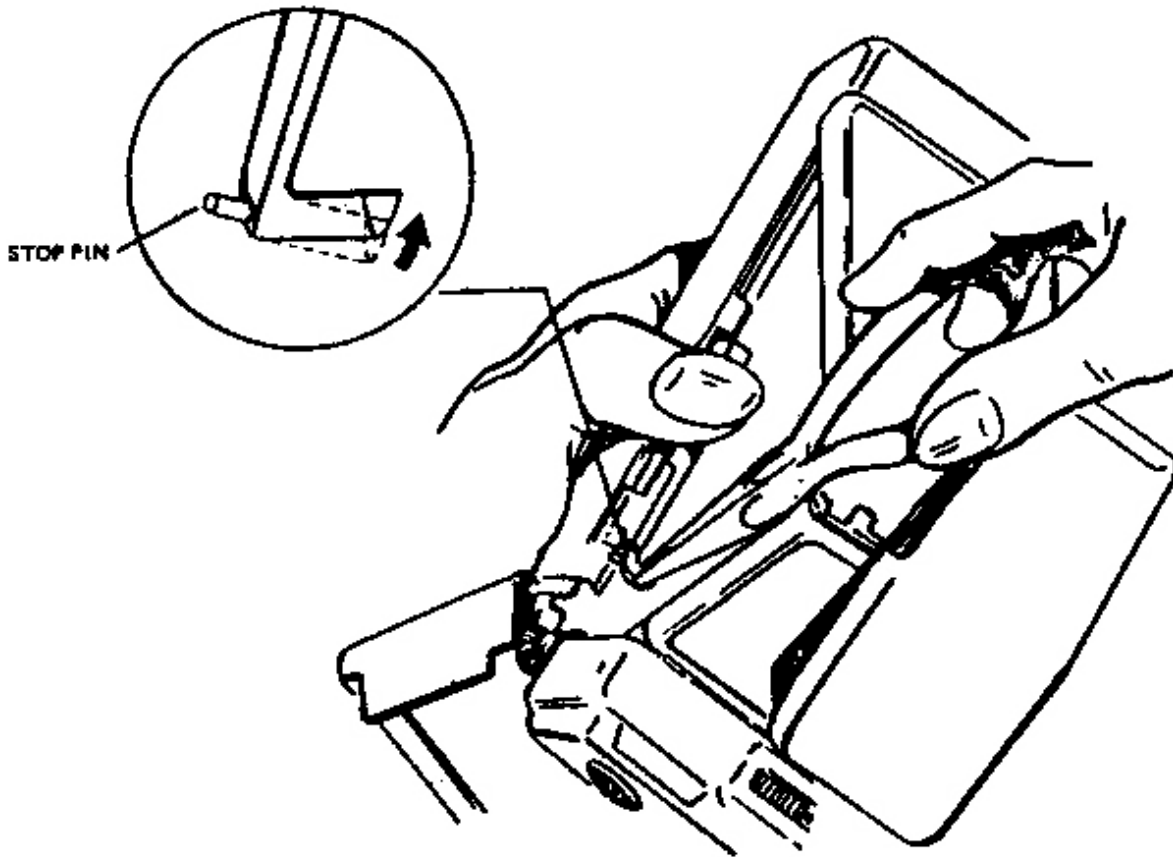

Figure 4-3 Bending the stop latch
- (1) Open the front cover.
- (2) Remove the gear train cover.
- (3) With the latch depressed, use needle-nose pliers to bend the knife edge of the latch inboard (away from the front cover) slightly less than 90°, as shown in Figure 4-3.
- (4) Close the front cover and recheck; bend further if necessary.
- (5) With the front cover open, observe for a clearance between the latch and the 3rd idler gear.
- (6) Observe that the stop pin (Figure 4-3) is not resting on the outer plate when the front cover is closed. When resting on the outer plate, the latch/front cover closing system will loosen from wear in a short time. Make the following observation :